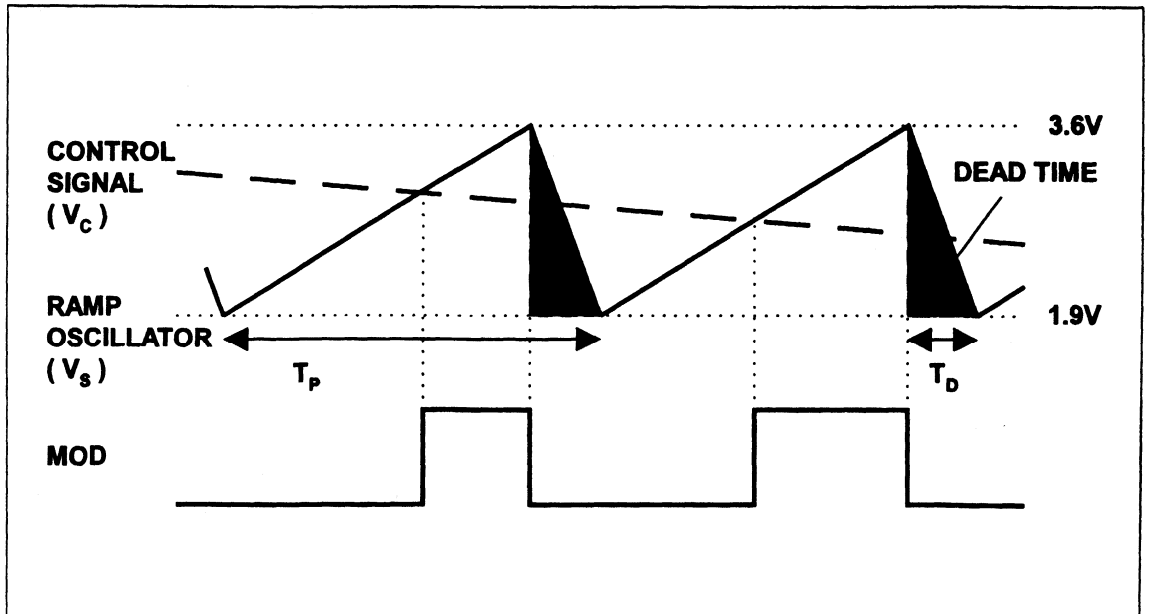

Figure 14. Relationship of MOD output to Sawtooth Waveform  $V_s$  and Control Signal  $V_c$
Each PWM loop starts with a comparator whose positive terminal is driven by Vs. The negative terminal is driven by the output of an Operational Transconductance Amplifier (OTA) which, with the compensation network connected via VCOMP or ICOMP, generates the control signal Vc. The OTA characteristics are: Ro = 250kΩ; GM = 0.42m-mho; gain bandwidth = 80MHz. The output of each comparator, along with the ramp waveform (Vs), is used to generate a pulse-width modulated waveform at a constant frequency on the MOD output. Figure 14 shows the relationship of MOD with Vc and Vs.
The pulse-width modulated square-wave signal on the MOD pin is synchronized to the internal sawtooth ramp signal. The ramp-down time (TD) is fixed at approximately 20% of the ramp time-period (TP). This limits the maximum duty-cycle achievable to approximately 80%. See Figure 14.